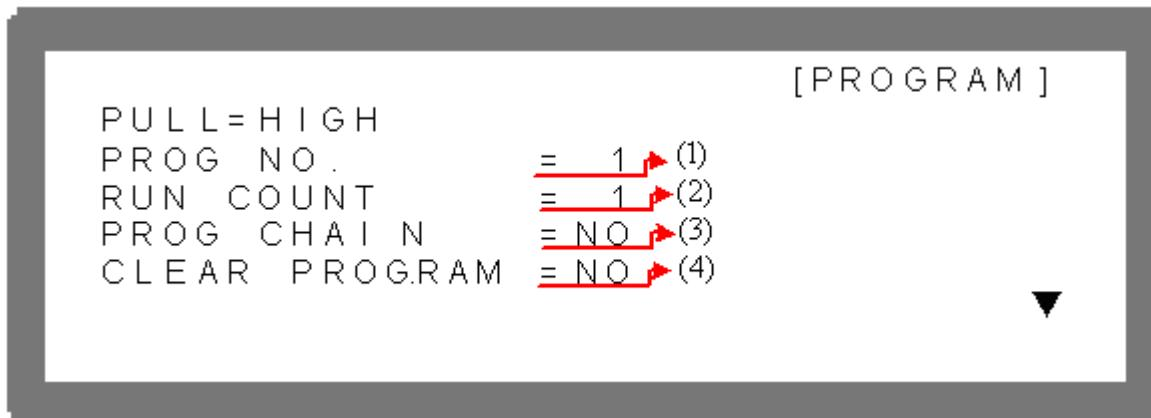
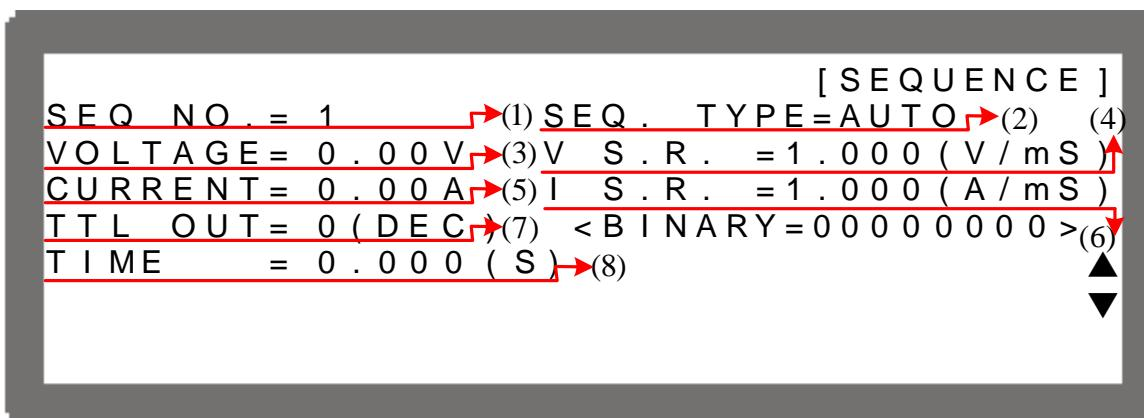

Figure 4-3
Figure 4-8
2. Use “”, “” keys to move the cursor to the column to be set as Figure 4-3 (1) shows.
1. Use “”, “” keys to move the cursor to the column to be set as Figure 4-3 (2) shows.
1. Use “, ” keys to move the cursor to the column to be set as Figure 4-3 (3) shows.
1. Use “”, “” keys to move the cursor to the column to be set as Figure 4-3 (4) shows.
- a. In PROGRAM page (Figure 4-3), if the PROGRAM has no SEQUENCE when the cursor is at (4), press “” can add a new SEQUENCE. The page will skip to Figure 4-8.
- b. When the cursor is at (8) in Figure 4-8 as the SEQUENCE of a PROGRAM, press “” can add a new SEQUENCE.
3. Use “, ” keys to move the cursor to the column to be set as Figure 4-8 shows.
6. Press “” to return to Program PAGE (Figure 4-3).
1. Use “”, “” keys to move the cursor to the column to be set as Figure 4-8 (1) shows.
2. When the cursor is in Figure 4-8 (8), press “” can add a new SEQUENCE. Also it can use the numeric () keys or “Rotary”() knob to set the value and return to the previous set Sequence Number.
4. Press “” to return to Program PAGE (Figure 4-3).
1. Use “”, “” keys to move the cursor to the column to be set as Figure 4-8 (2) shows.
2. Use the numeric () keys or “Rotary”() knob to set the Sequence Type. There are four Sequence Types, which are: (1) AUTO, (2) MANUAL, (3) TRIGGER, (4) SKIP.
1. Use “”, “” keys to move the cursor to the column to be set as Figure 4-8 (3) shows.
1. Use “”, “” keys to move the cursor to the column to be set as Figure 4-8 (5) shows.